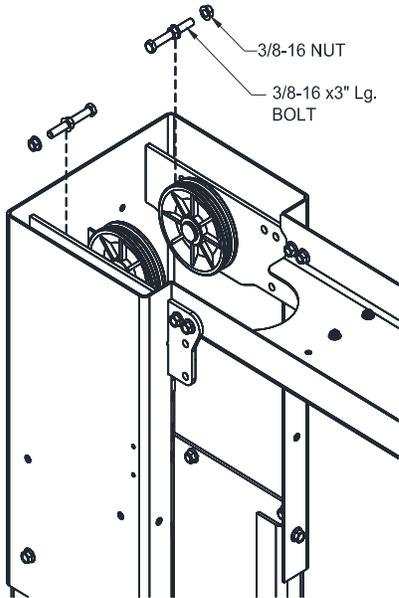

Fig. 8 – Column Ext. Cable Trapping
- 21) Route free end of cables up and over the upper sheaves and back down the opposite side. At the upper sheave locations, disassemble and reassemble the cable trapping hardware after cables are routed around sheaves, Fig. 8.